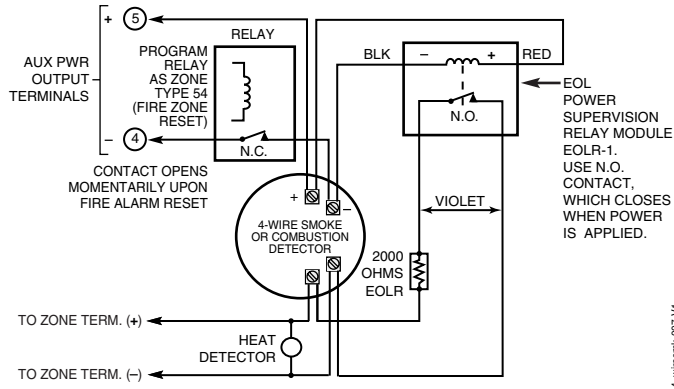

Figure 9a. 4-Wire Smoke Detector Using Relay for Power Reset
3. Connect 4-wire smoke detectors (number of detectors depend on detector current draw) to any zone from 2-8 as shown in Figures 9a and 9b (on next page).